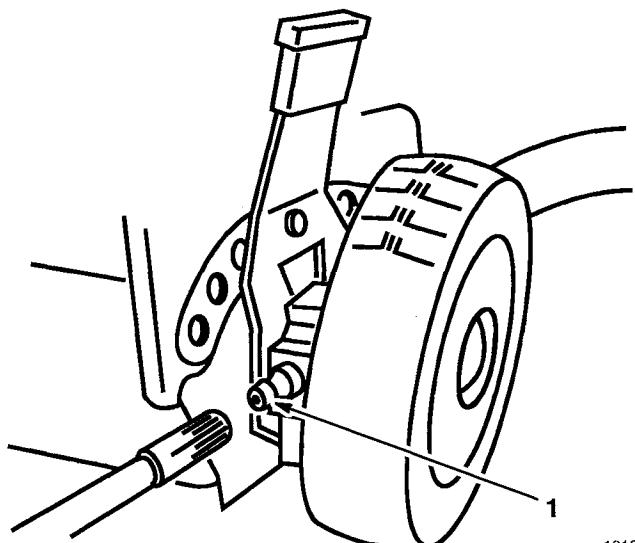

Figure 37
1. Wipe grease fittings on rear height-of-cut adjustors (Fig. 37) with a clean rag.